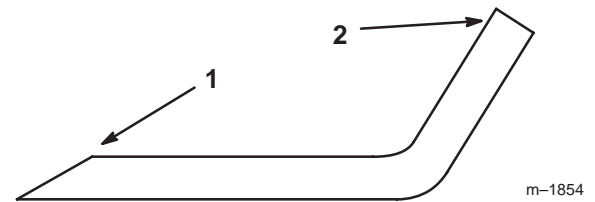
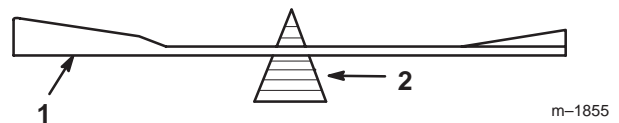

Figure 30
Figure 31
1. Use a file to sharpen the cutting edge at both ends of the blade (Fig. 30). Maintain the original angle. The blade retains its balance if the same amount of material is removed from both cutting edges.
2. Check the balance of the blade by putting it on a blade balancer (Fig. 31). If the blade stays in a horizontal position, the blade is balanced and can be used. If the blade is not balanced, file some metal off the end of the sail area only (Fig. 30). Repeat this step until the blade is balanced.